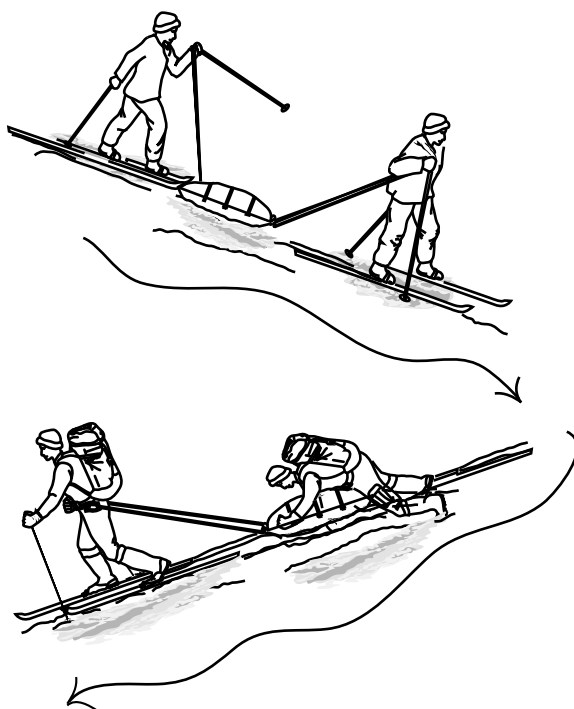

Figure 7-6. Moving Down a Moderate Slope.
- When descending moderate slopes, one Marine should attach a trace from themselves to the rear of the sled and move behind the sled while assisting the sled puller in the descent, as shown in Figure 7-6.